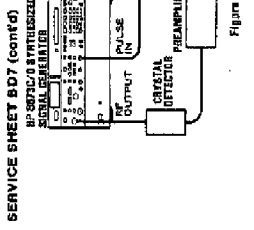
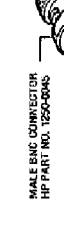

Figure 8-51. Pulse Modulation Initial Check Test Setup
Figure 8-52. Pulse Shunt Adaptor
1. Connect the equipment as shown in Figure 8-51. The shunt adaptor can easily be fabricated using 2 BNC connectors and a 147 ohm resistor as shown in Figure 8-52.
5. Bypass the sense/amplifier as shown in Figure 8-51. Adjust the oscilloscope vertical position and sensitivity controls so that the pulse height is approximately 4 divisions from the bottom of the screen. The Signal Generator level in peak amplitude may have to be increased to +8 dBm.